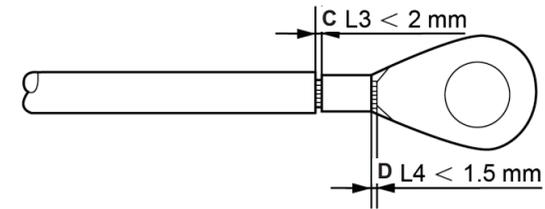

Figure 3.18 Strip wire
- 4) Insert the stripped wire into the OT terminal crimping area and use the hydraulic clamp to crimp the terminal to the wire (see Figure 3.18).